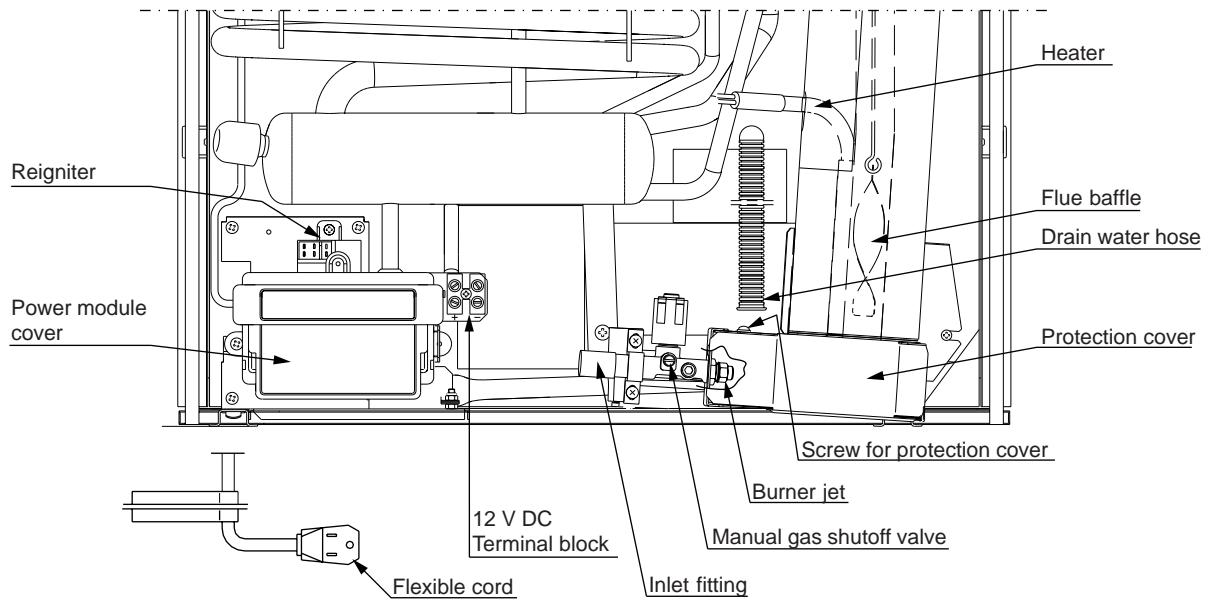

FIG. 1
2. Check that the gas flame is lit. In AUTO mode the AUTO mode indicator lamp (A) is on.
3. Close the manual gas shutoff valve at the back of the refrigerator. (See FIG. 1).
4. Wait for one minute. The CHECK indicator lamp (B) should be on, and the flame extinguished.